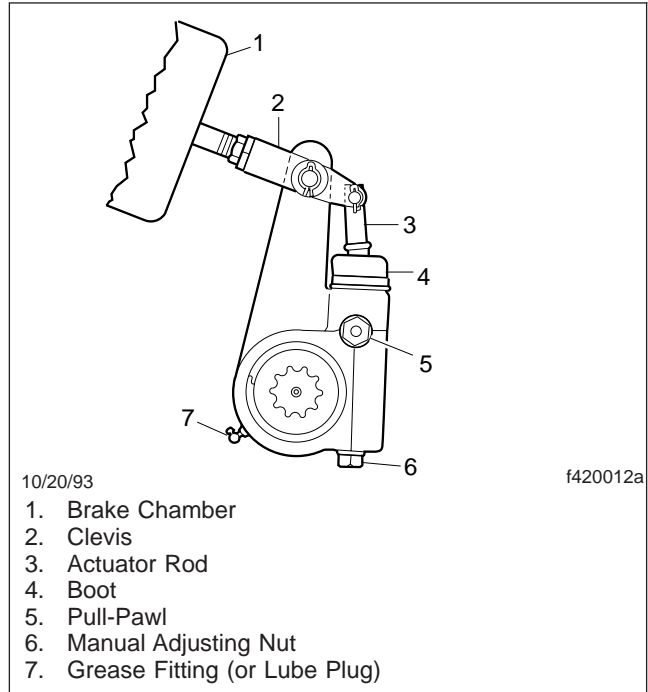

Fig. 5, Meritor Automatic Slack Adjuster
2. Check the boot for cuts, tears, etc., and replace it if necessary. See **Fig. 5**.